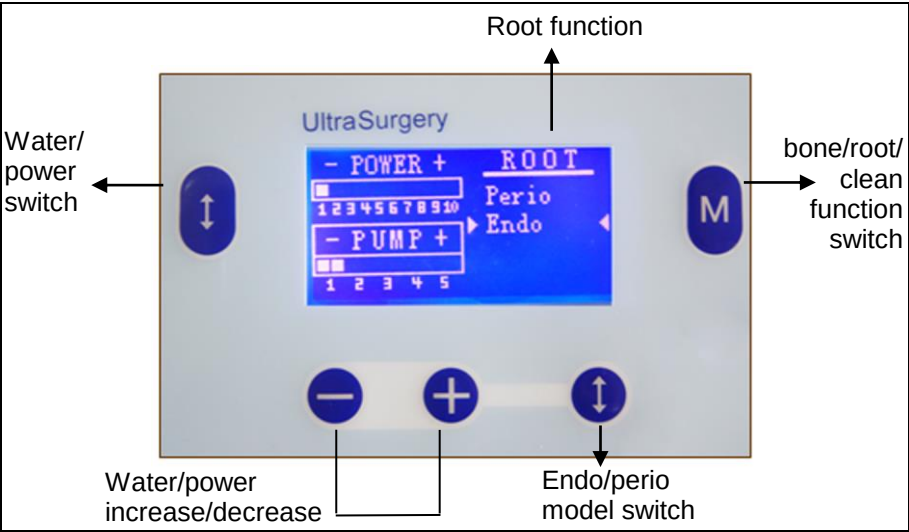

Fig. 9
b) *ROOT function (Fig. 9)*
- f) Check the display to see the power level that has been set, if the type of power required differs from the level that has been set, use the "+", "-" keys (Fig. 9) for selecting, depending on the type of function that has been set.